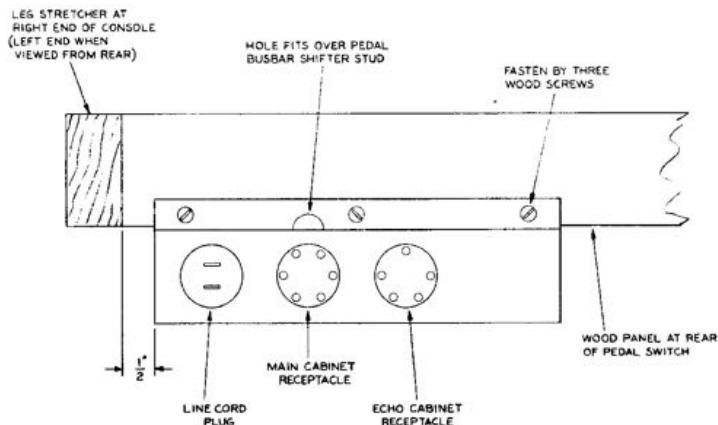

FIGURE 7 - MOUNTING OF OUTLET BOX
- Follow remaining part of step 6 and follow steps 7 and 8. Figure 7 shows position in which outlet box should be mounted on console.